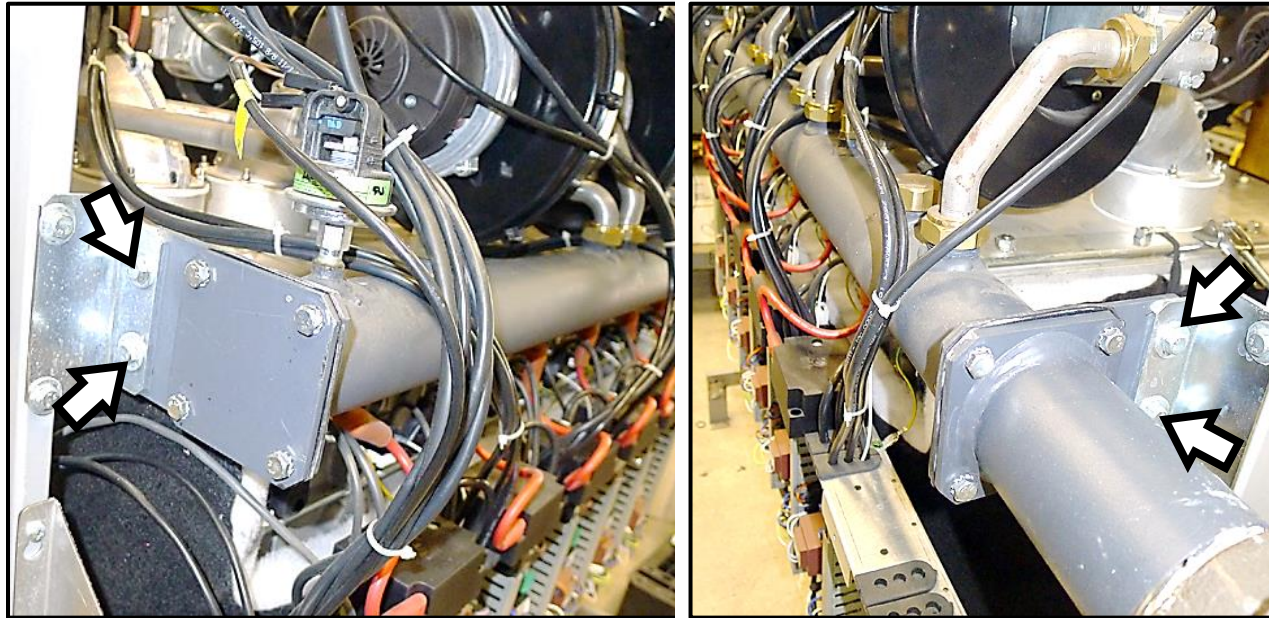

Figure 8-15: Uninstall Gas Collector Tube from Boiler Chassis (Step 12)
11. Refer to Figure 8-15 and remove the two bolts (white arrows) at each end of the gas collection tube that mount it to the boiler chassis.